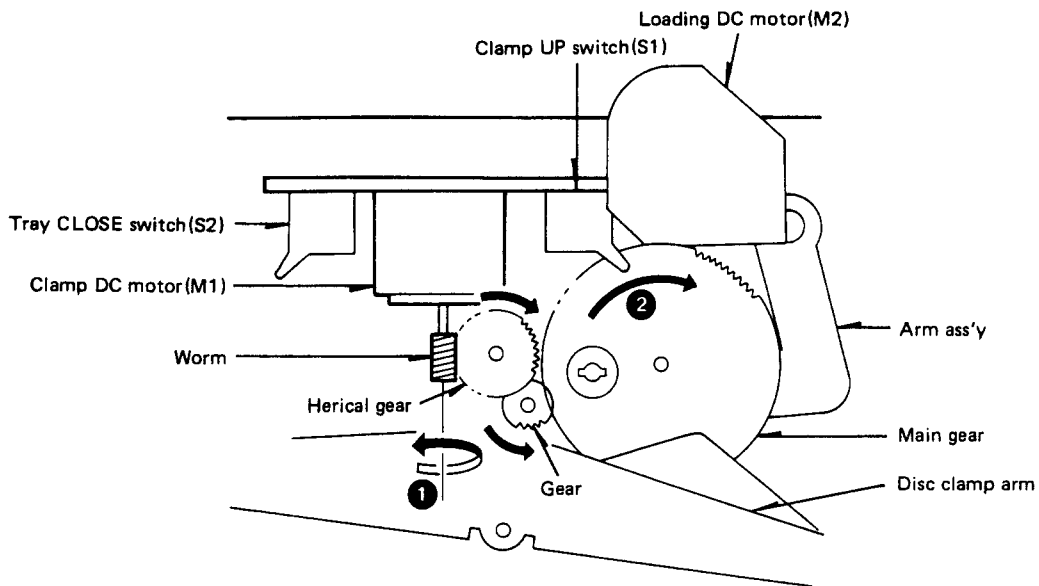

Fig. 2 Tray OPEN operation (1)
At first, the clamp DC motor (M1) thus rotates in the direction of an arrow (1). Further, the main gear rotates in the direction of an arrow (2) by an intermediate gear (Figure 2).